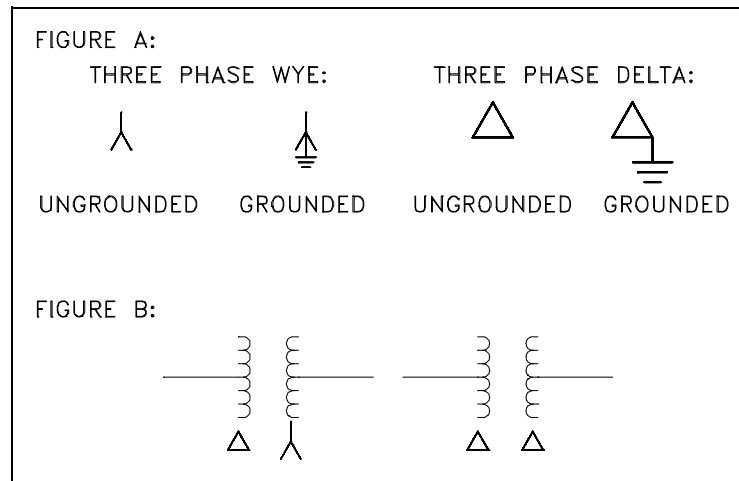

Figure 16 Three-Phase Symbols
Figure 16 (A) shows the most commonly used symbols to indicate how the phases are connected in three-phase windings. Figure 16 (B) illustrates examples of how these symbols appear in a three-phase single line diagram.